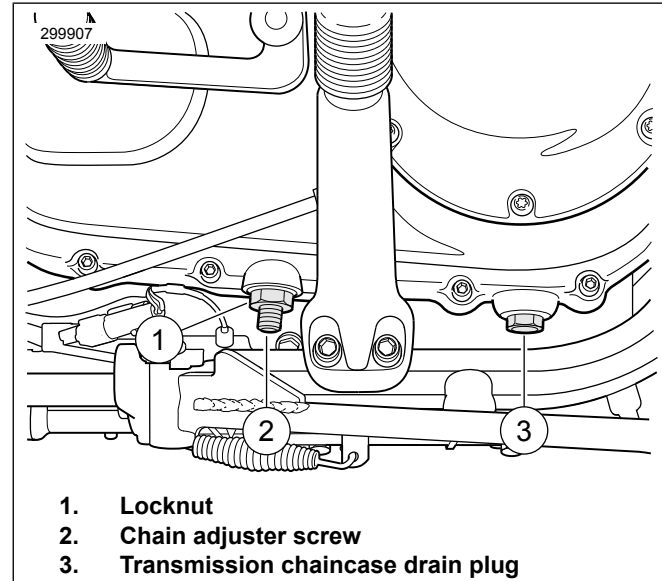

Figure 51. Primary Chain Adjuster: Sportster Models
1. See Figure 51. Loosen locknut (1).
2. Turn chain adjuster screw (2) clockwise (inward) to reduce free play or counterclockwise (outward) to increase free play. Free play must fall within specifications. Refer to Table 37.